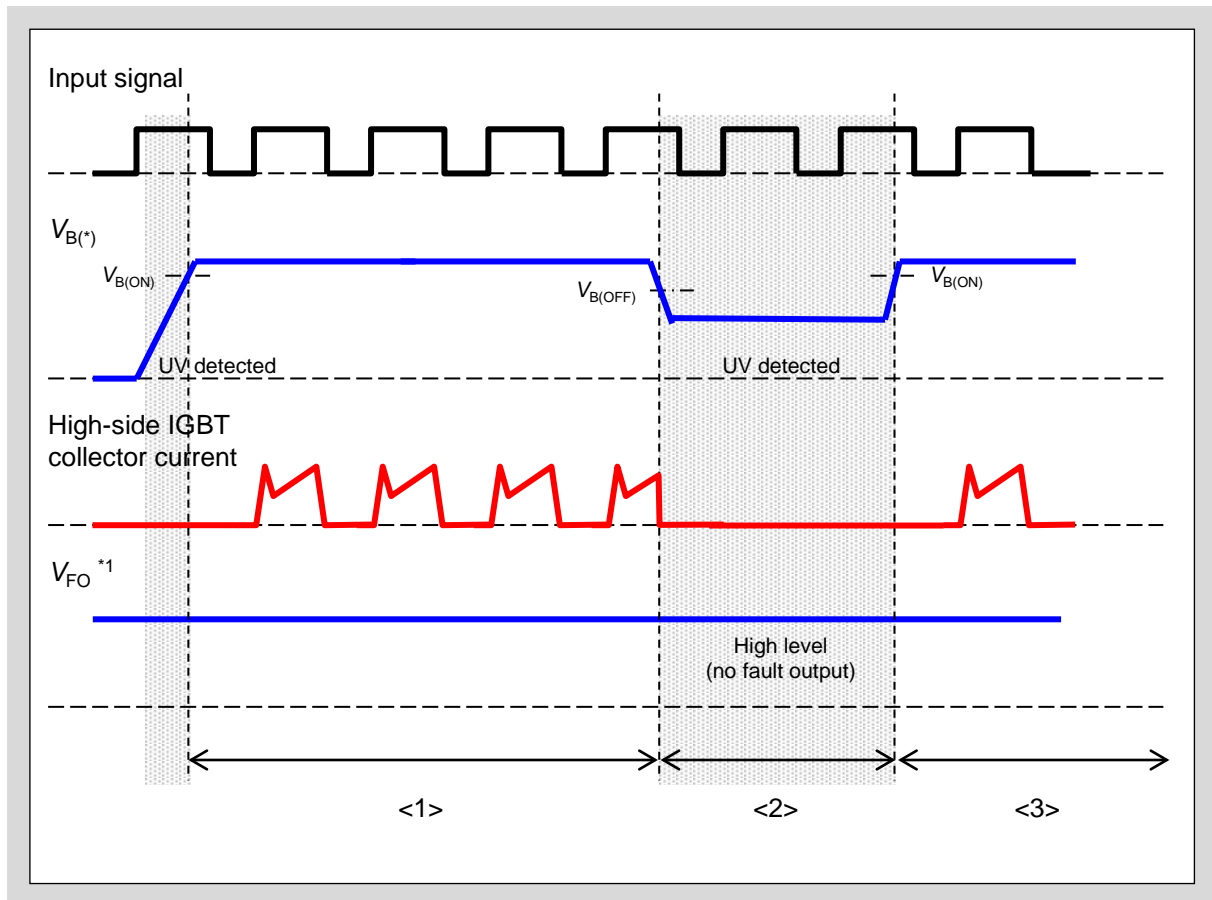

Fig. 3-5 UV protection operation sequence of  $V_{B(*)}$
- Fig.3-5 shows the UV protection operation sequence of  $V_{B(*)}$ .